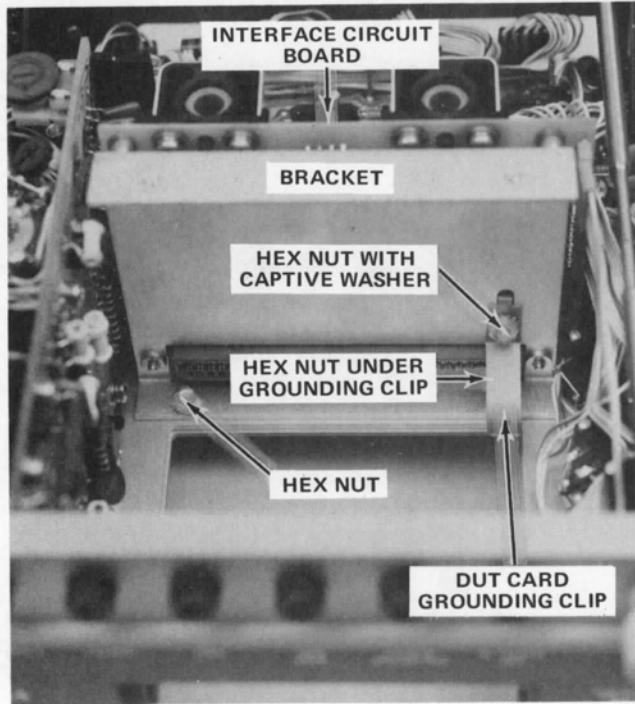

Fig. 4-9. Location of the DUT card grounding clip.
- i. Remove the DUT card-grounding clip (see Fig. 4-9).